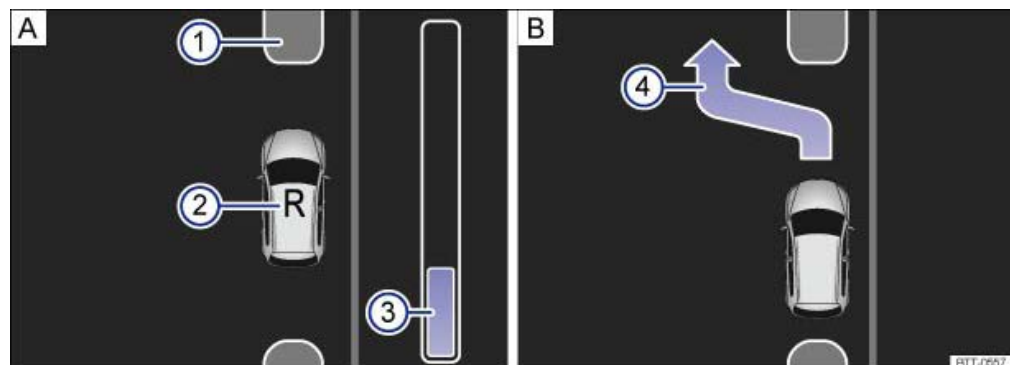

Fig. 190 On the instrument cluster display: driving out of a parallel parking space.
Key to → Fig. 190:
- The progress bar → Fig. 190  shows the remaining distance to be travelled.